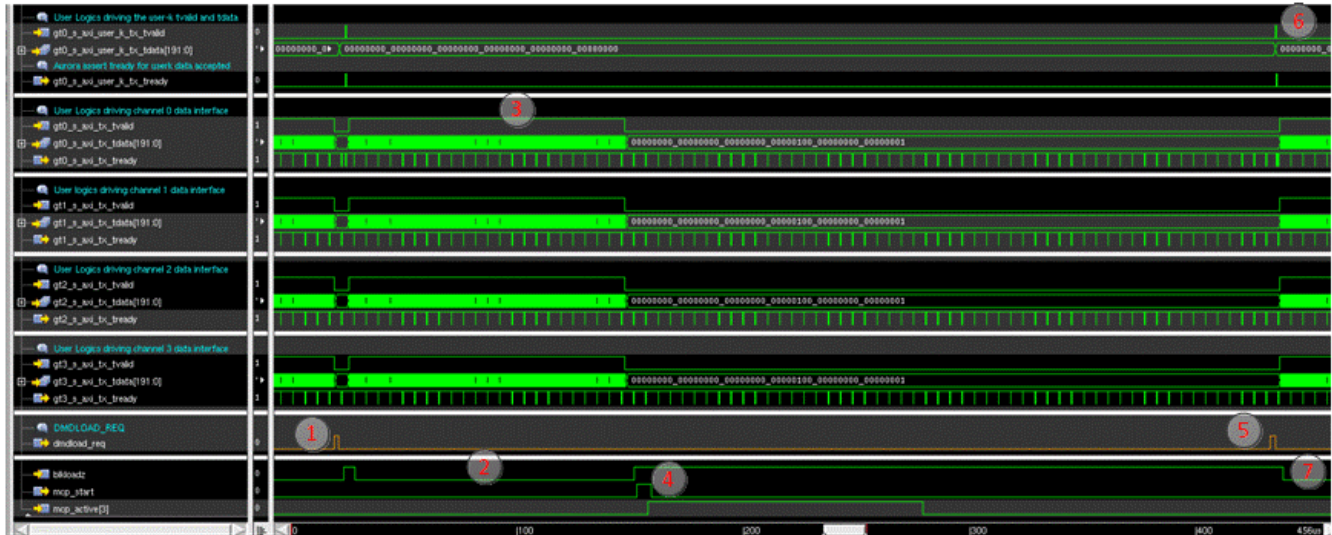

图 7-6. DMDLOAD_REQ Delayed Assertion Waveform
- It is not necessary for the APPS FPGA to immediately assert DMDLOAD_REQ after sending a DMD data block. The APPS FPGA may send the DLPC964 Controller a DMD data block and then delay the assertion of DMDLOAD_REQ until the system is ready for the DMD be loaded. 图 7-6 describes this operation.